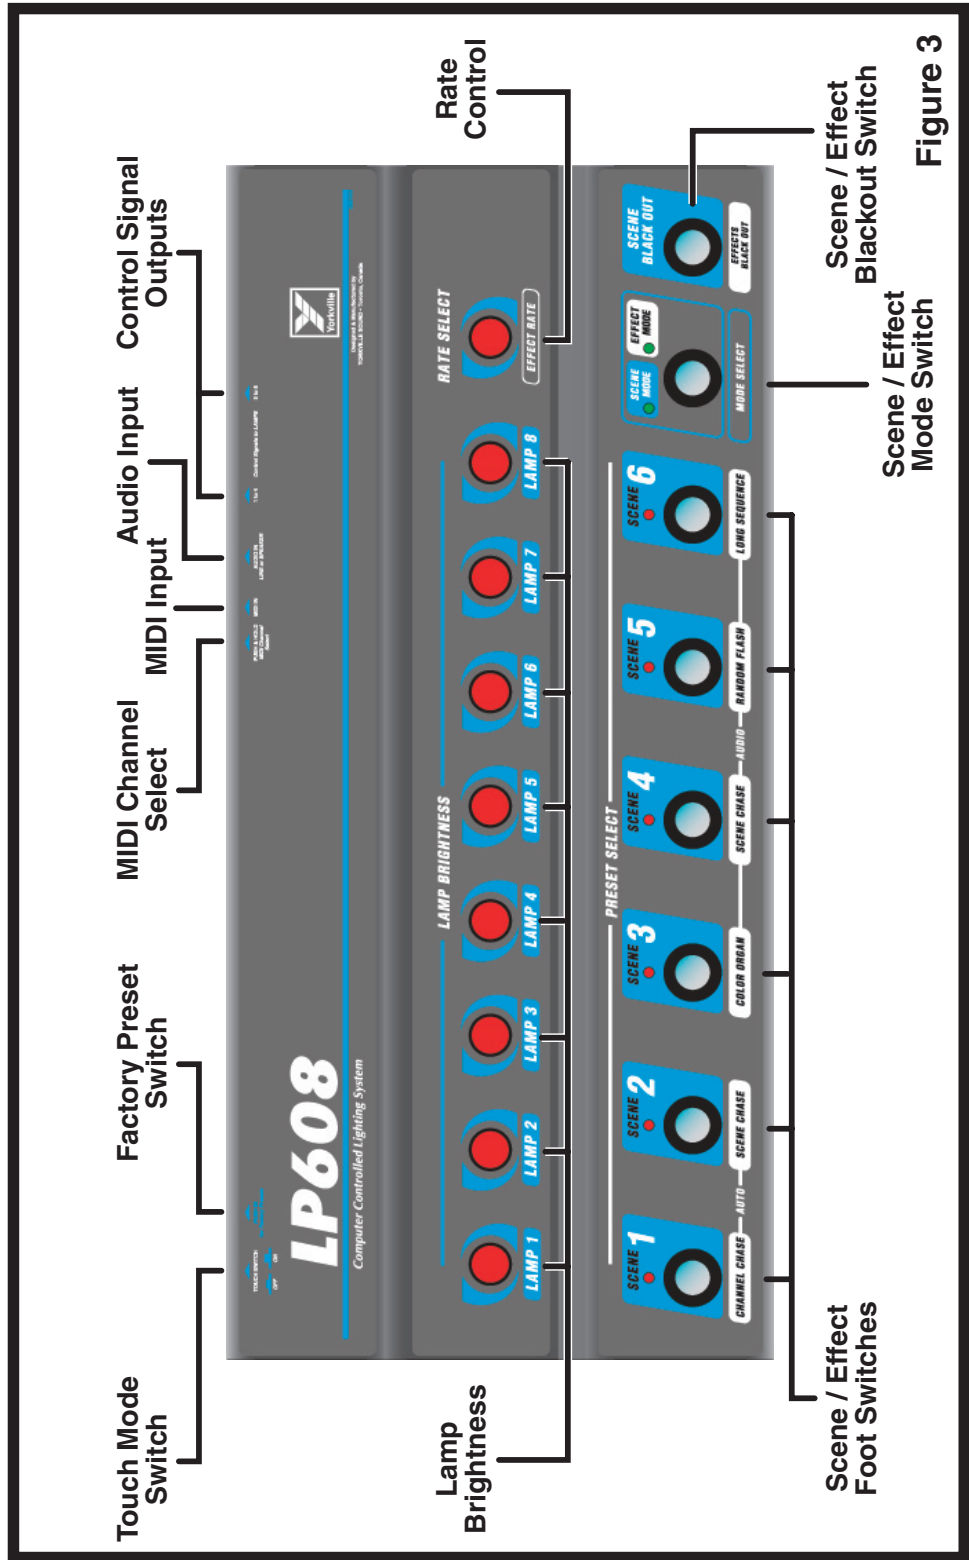

Figure 3
- Selection of an effect can only be achieved when the **Mode Select** footswitch is in the **Effect Mode**. (Refer to figure 3.)